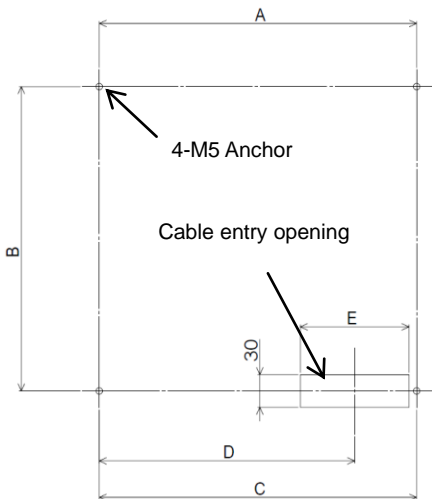

Figure 8. Mounting Layout
- (1) Refer to Figure 8 and Table 3, and cut four mounting holes in the wall. This gas alarm system has cable openings on its rear and its bottom. When using the bottom cable opening(s), it is not necessary to cut a hole in the wall for cable entry. On the other hand, a wall cut must be made when using the rear cable opening(s).
- (2) Install a wall anchor into each of the four wall-mounting holes, and screw two bolts into the two top wall anchors.
- (3) Remove the metal plate by removing the four screws. Pull out to remove the indicator unit which covers the case's upper mounting holes. Hang the case on the two top bolts (Step 2) by sliding these bolts through the case's upper mounting holes. Screw two bottom bolts into the two lower anchors.
- (4) Firmly tighten all four bolts, and install the removed alarm and indicator units into the case. Install the removed connectors, too.